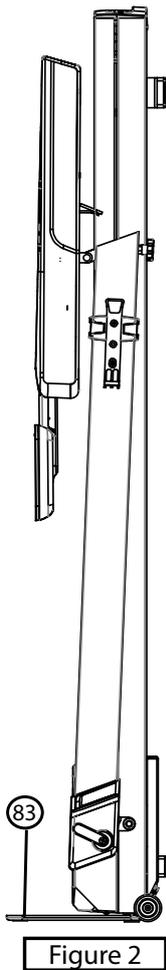

Figure 2
2. Set up the device vertically (figure 2).